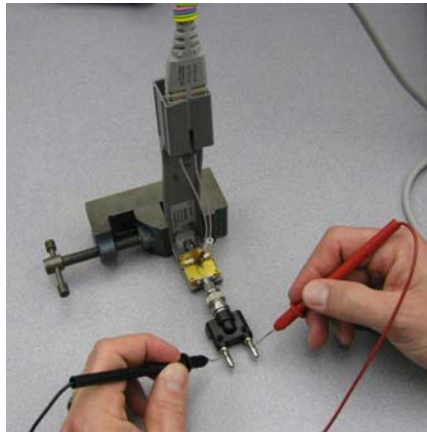

Figure 105 Measuring the Differential Input Resistance of Solder-In Probe Head
Figure 105 shows the correct setup for measuring the differential input resistance for the solder-in probe head.
- 1 Connect the BNC to SMA adapter and BNC to Banana Plug adapters as shown in **Figure 105** on page 138.
- 4 Connect the ZIF or solder-in probe head to the probe amp and insert it into the PV fixture as shown **Figure 105**.
- 6 As shown in **Figure 105**, measure the DC input resistance between the banana plugs. Since one tip wire is connected to the signal line and the other tip is connected to the PV fixture ground, this is a measurement of the differential input resistance. It should be $100\text{ k}\Omega \pm 2\%$ (98 to $102\text{ k}\Omega$).